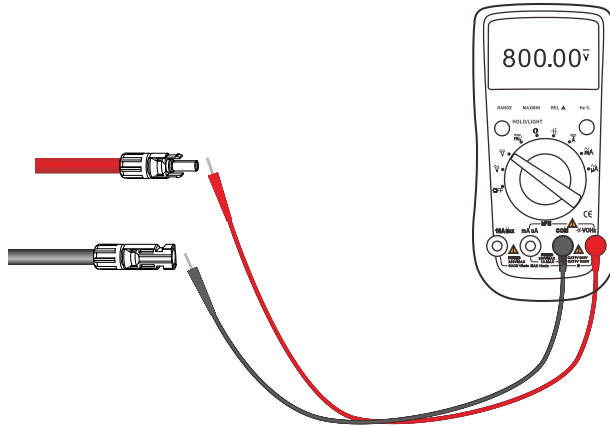

Figure 5.12 Checking the voltage of each input pair
- Step 5 : Measure the voltage of each input pair using a multimeter. For PV-60000T-U/PV-75000T-U the voltage should not be over 1100 VDC. Ensure that the polarities of the DC input power cables are correct, as shown in Figure 5.12